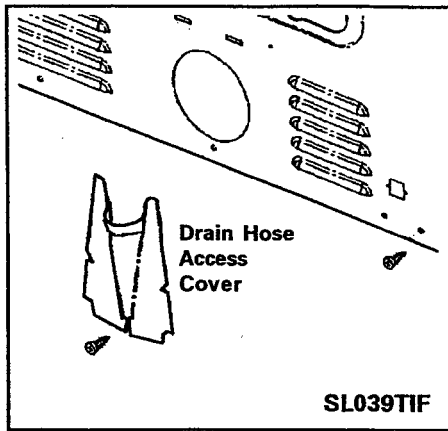

Figure 2-39
3. Remove the 1/4" hex-head screw securing the drain hose shield. Remove shield (*Figure 2-39*).